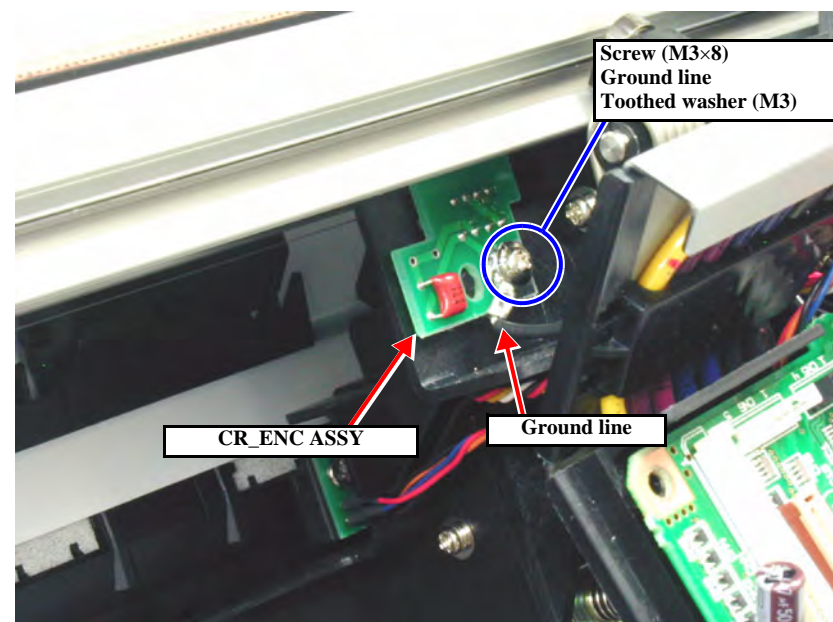

Figure 4-38. CR Encoder Sensor Removal 2/2
8. Remove one screw (CPP: M3×8) securing the CR_ENC ASSY, ground line, and washer (M3). Then remove the CR_ENC ASSY. (See Figure 4-38)